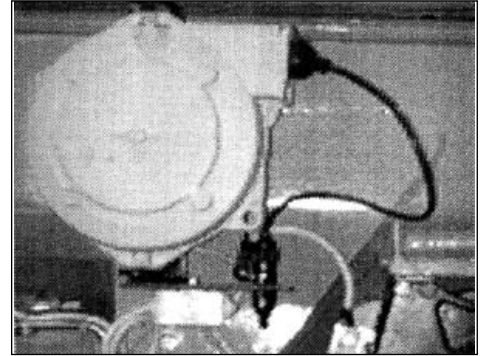

fig. 39
- Insert the flying drive in the pin placed in the cable winder. (Fig. 39).